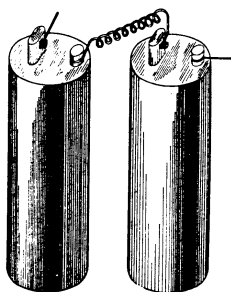

Fig. 21.
**BATTERIES.**—Our telephones are listed with batteries which are packed in the cabinet of the telephone. The batteries, however, are not connected together when telephone is shipped. Connection should be made as shown in Fig. 21.